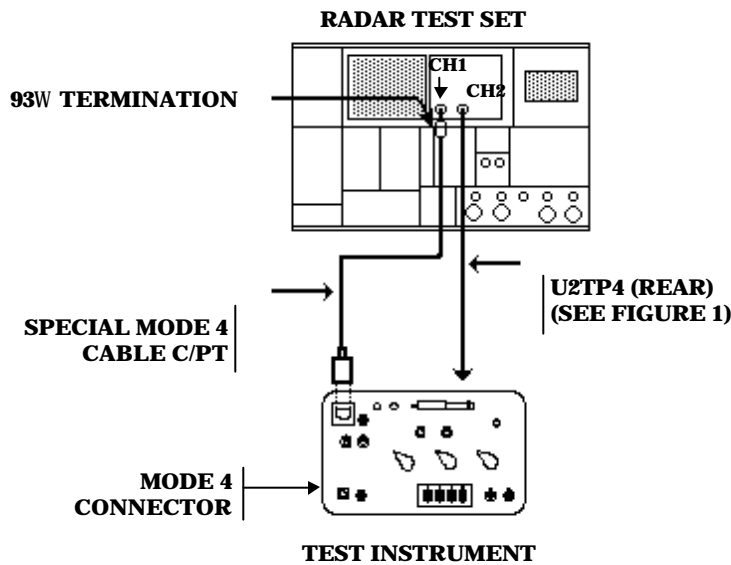

Figure 6. MODE 4 pretrigger – equipment setup.
(1) Connect equipment as shown in figure 6.